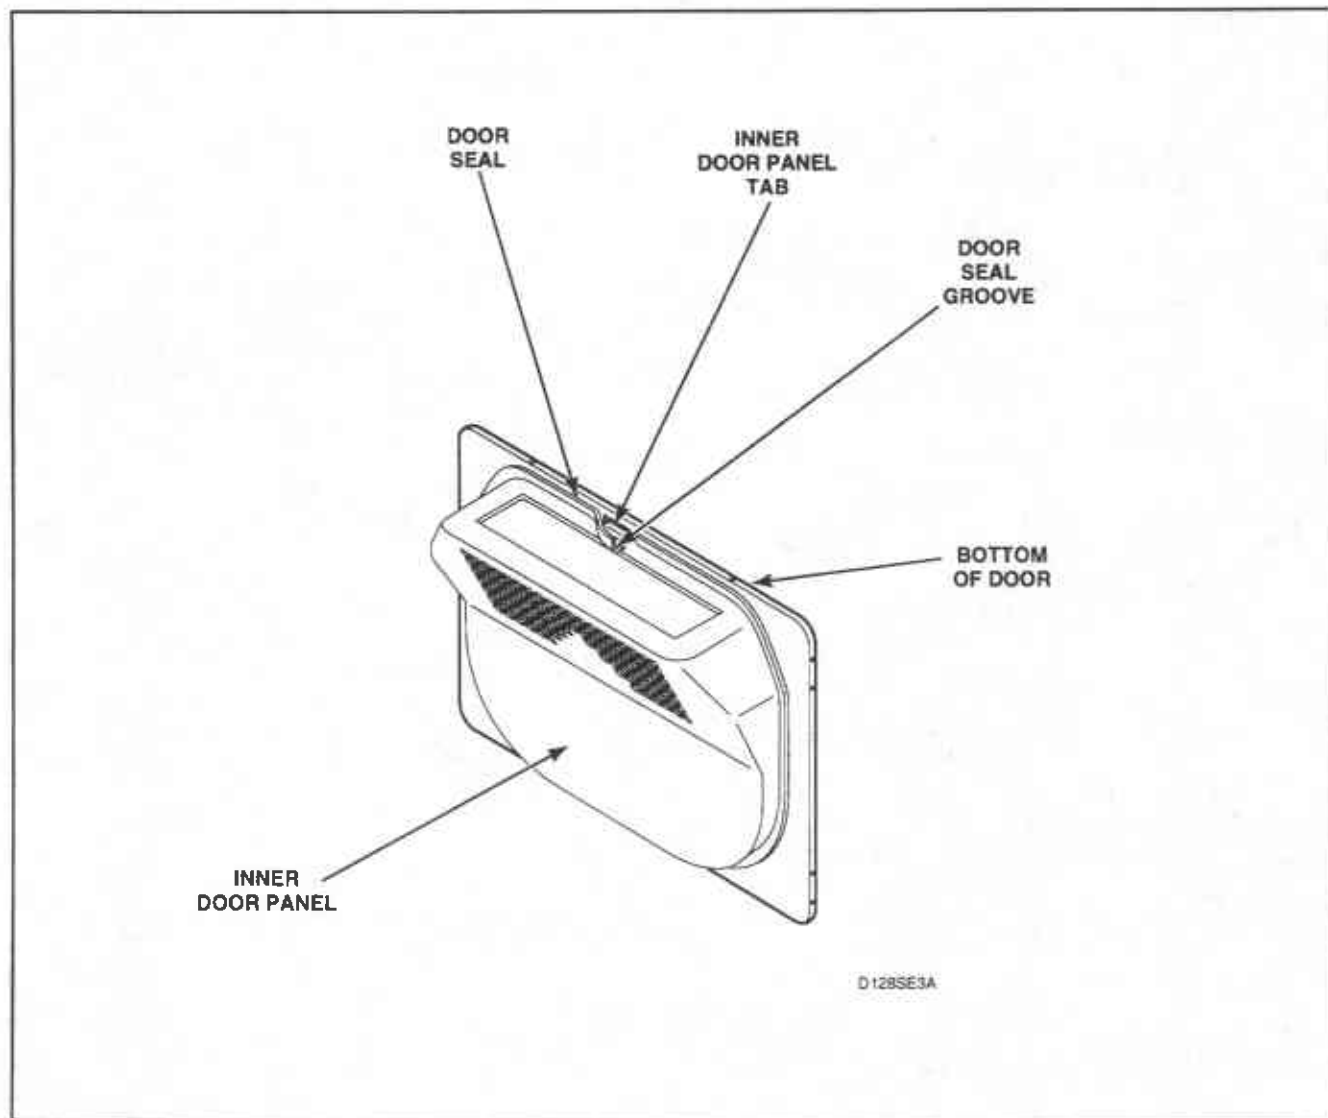

Figure 20
- b. Grasp either end of door seal at bottom of door and remove seal from tabs on inner door panel by gently pulling on the seal, *Figure 20*.
NOTE: When replacing seal, be sure seal is not stretched or distorted and the groove in the seal is installed on each tab on inner door panel, *Figure 20*, and the split in the seal is at the bottom of the door.